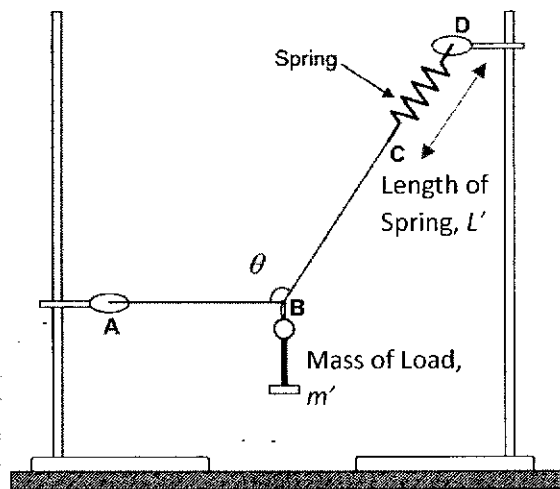

Fig. 1
- Set up the apparatus as shown in Fig. 1.